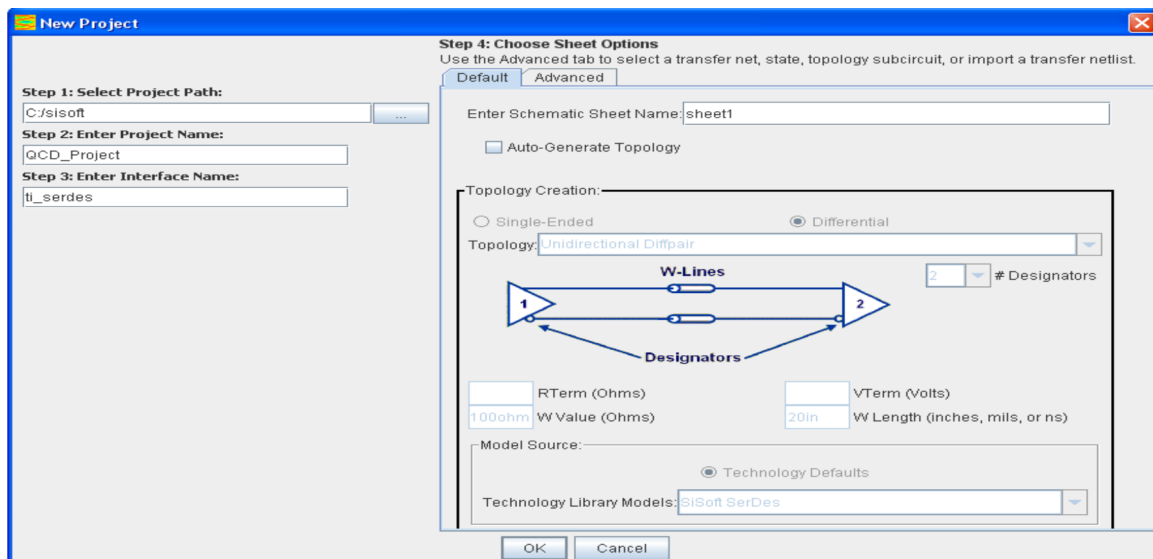

Figure 8. SiSoft QCD -- Creating a New Project
2. Fill in the project details in the GUI that pops up. An example is shown in Figure 8.